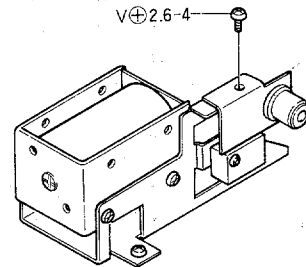

Fig. 6
- 3) Remove the screw. (See Figure 6.)